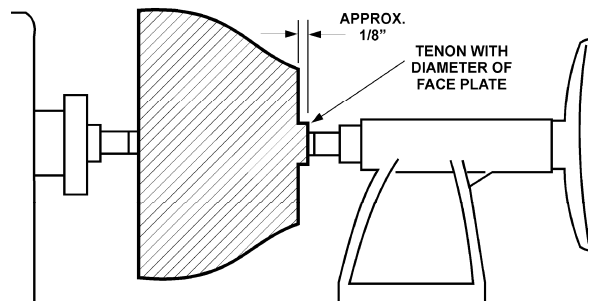

Figure 21
3. Slip the spur center into the headstock taper and bring the tailstock, with a live center, into position. Lock the tailstock to the bed and advance the spindle in order to seat the cup center into workpiece, see Figure 21. Tighten the quill lock.
8. As the bowl takes shape, work on the bottom (tailstock end) to accommodate attaching a face plate, see Figure 21.
9. Turn a short tenon (about 1/8" long) the size of the hole in the faceplate, see Figure 21. This will allow centering the workpiece when the faceplate is attached. **Note:** If you plan to use a chuck, turn a tenon of appropriate length and diameter to fit your chuck.